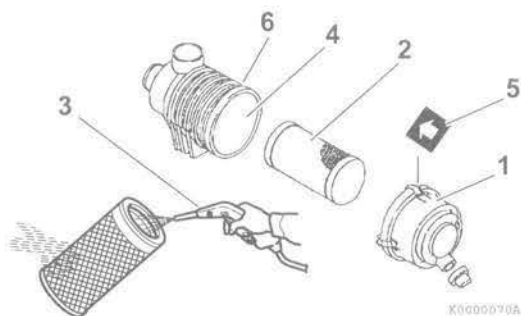
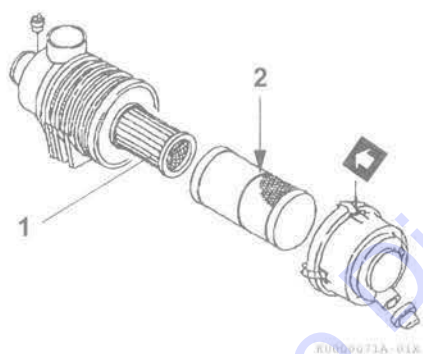

Figure 13
Figure 14
Note that a typical air cleaner is shown in **Figure 13** and **Figure 14** for illustrative purposes only.
1. Unlatch and remove the air cleaner cover (1, **Figure 13**).
2. Remove the element (2, **Figure 13**) (outer element if equipped with two elements).
3. Blow air (3, **Figure 13**) through the element from the inside out using 42 - 71 psi (0.29 - 0.49 MPa, 3.0 - 5.0 kgf/cm²) compressed air to remove the particulates. Use the lowest possible air pressure to remove the dust without damaging the element.
4. If the air cleaner is equipped with a double element, only remove and replace the inner element (1, **Figure 14**) if the engine lacks power or the dust indicator actuates (if equipped).
7. Reinstall the element into the air cleaner case (4, **Figure 13**).
*Note: If there is a red line (2, **Figure 14**) in the outer element, reinsert the element until the overlap position of red line and end face of the air cleaner case.*
8. Reinstall the air cleaner cover making sure you match the arrow (5, **Figure 13**) on the cover with the arrow on the case (6, **Figure 13**).
Replace the air cleaner element (2, **Figure 13**) every 500 hours even if it is not damaged or dirty.
When replacing the element, clean the inside of the air cleaner case (4, **Figure 13**).
If the air cleaner is equipped with a double element, *only remove and replace the inner element (1, **Figure 14**) if the engine lacks power or the dust indicator actuates (if equipped).* This is in addition to replacing the outer element.